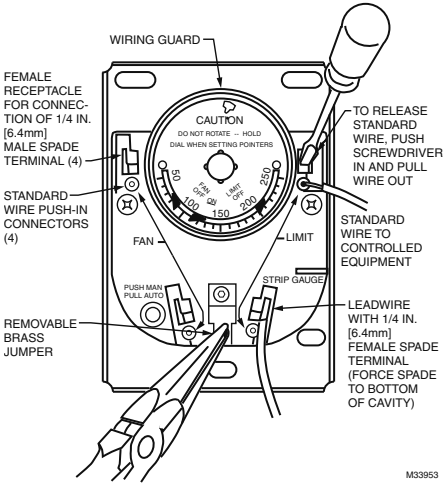

Fig. 5. Location of Wiring Connections.
Disconnect power supply before beginning installation to prevent electrical shock or equipment damage. All wiring must comply with local electrical codes and ordinances or in the absence of local codes with the National Electrical Code ANSI C1-1981-NFPA 70. Follow burner or furnace manufacturer's instructions if available; otherwise, see Fig. 5 and proceed as follows.
*The brass jumper is the breakaway type. It must be removed when the limit is used in the low voltage circuit. To remove jumper, break with a needlenose pliers and remove completely. Once removed, it is not replaceable. See Fig. 5 for location.*
When connecting cable or conduit to this controller, use care to avoid strain on the control case. Connections can be made to standard wire push-in terminals or female receptacles for 1/4 in. (6.4 mm) male flag connectors on both the fan and limit switches (Fig. 5).
3. Solid wire may be inserted directly into the terminal holes. If stranded wire is used, insert a small screwdriver into the slot next to the terminal. Push screwdriver in and hold while inserting wire into terminal (Fig. 5). Remove screwdriver. If stranded wire is solder-dipped, it can be pushed directly into terminal holes.
3. Push male flag connector directly into the female receptacle. Make sure that the flag is forced to the bottom of cavity and wire is in the channel (Fig. 5).